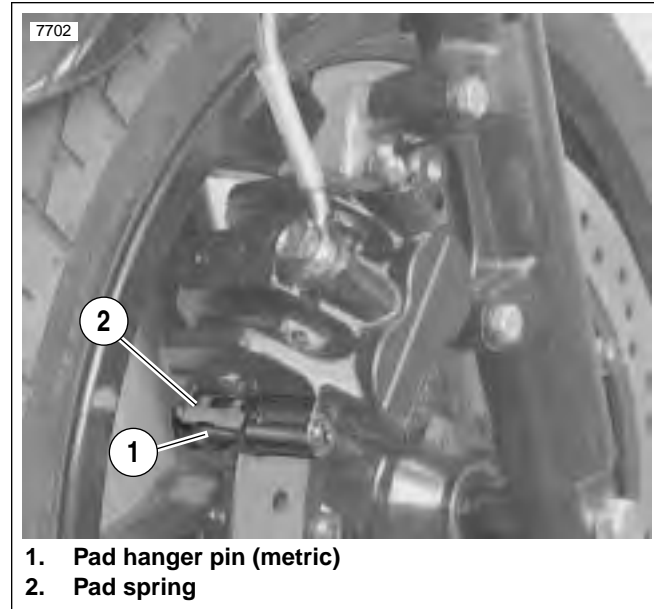

Figure 2-39. Pad Spring
- a. Remove pin plug (5).
- b. See Figure 2-39. Remove pad hanger pin (1) (metric).